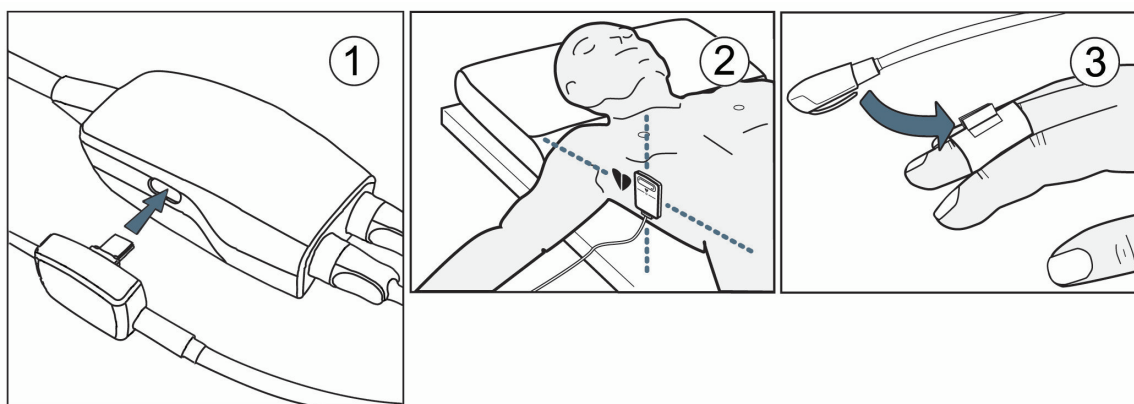

Figure 10-4: Heart reference sensor application
1. Connect the HRS to the pressure controller. See (1) in Figure 10-4 on page 199.
3. Apply the heart end of the HRS to the patient at phlebostatic axis level by using an HRS clip. See (2) in HRS.